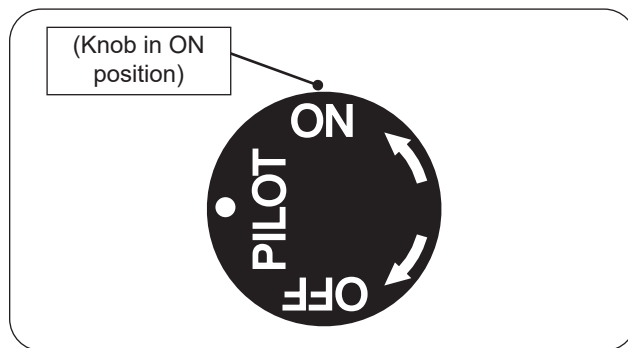

Fig. 45-1 Manual lighting
1. Ensure the pilot is burning. Turn the control knob counterclockwise ↺ to **ON** to ignite the burner (see Fig. 45-1).